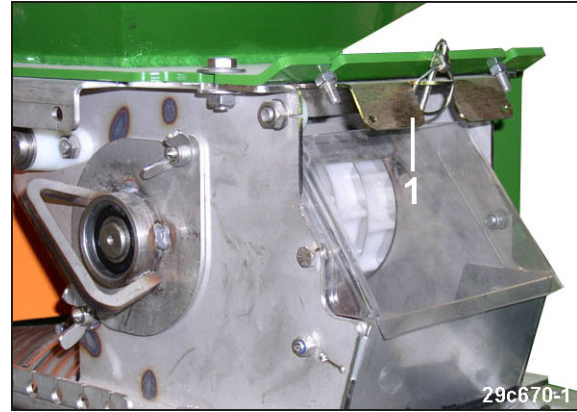

Fig. 193
2. Close the slider (Fig. 193/1)
8. Open the slider(s) (Fig. 193/1) and secure (clip pin).